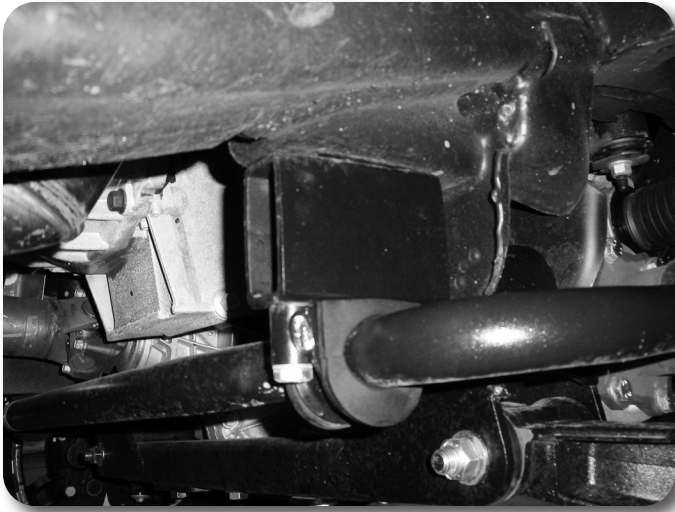

Figure 33
65. Attach the factory front sway bar to the original mounts in conjunction with the provided drop brackets and 10mm x 130mm bolts/washers. Use Loctite on the bolt threads and torque to 45 ft-lbs Figure 33.